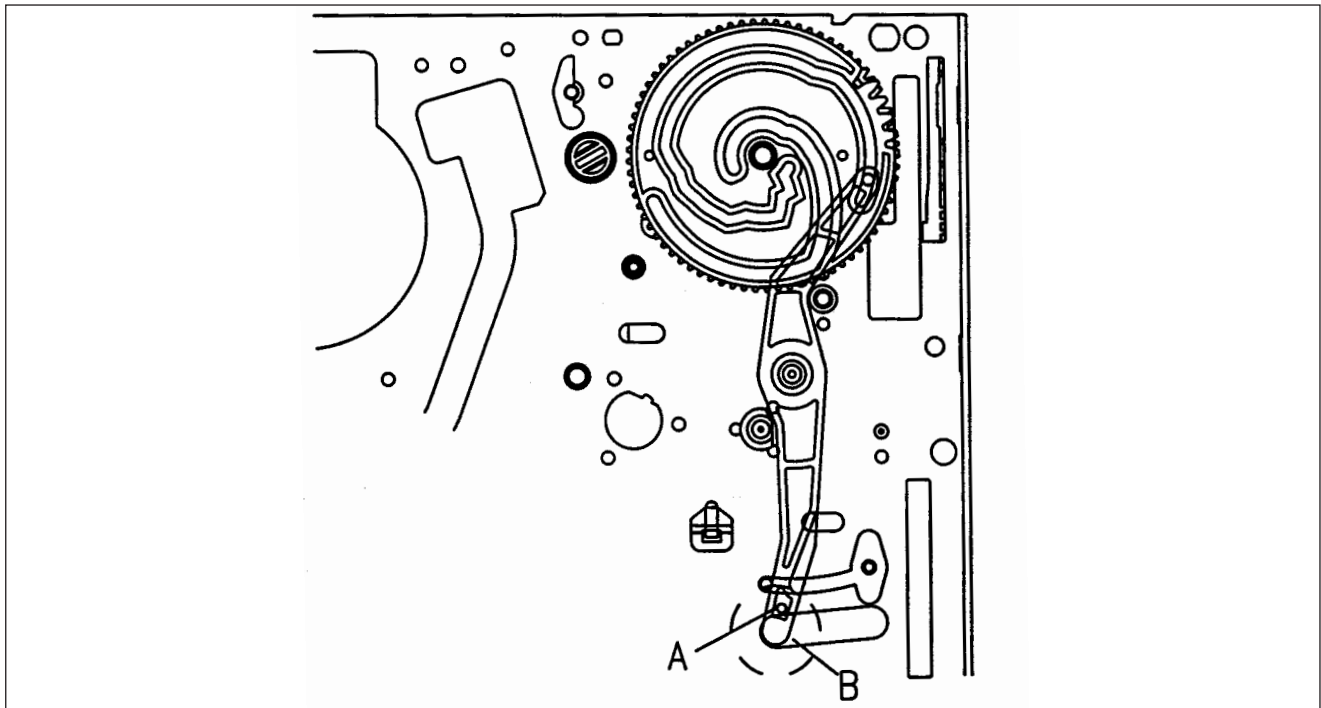

Fig. 2- Mechanical Checks/relay Lever and Cam Gear Alignment
2. Make sure that the part of the relay lever "A" which is assembled with CONNECT PLATE is fully rotated up to the left and of the hole "B" (Fig. 2)